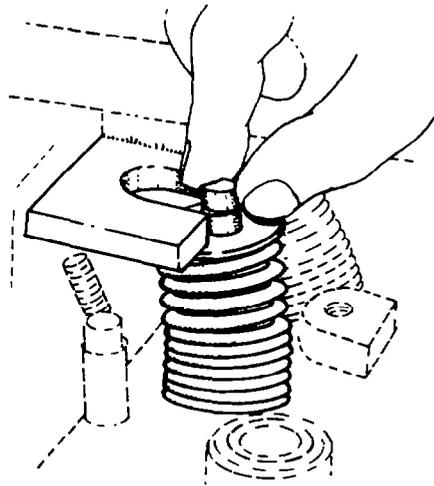

Fig. 3 — Removing Valve Spring Collets
- b. Compress the valve spring and remove the collets, valve rotators and valve springs (see fig. 3).